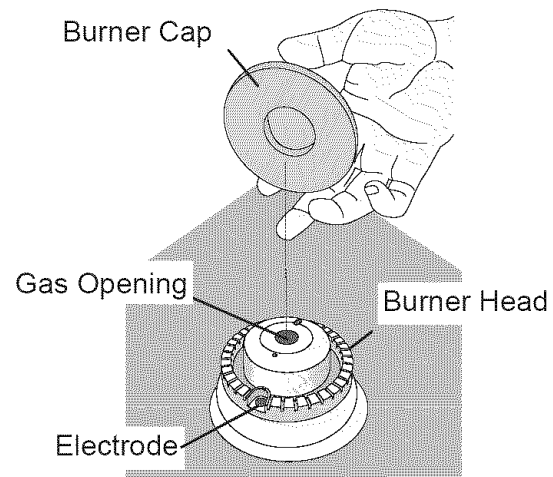

Figure 10
- B. **Regular Burners:** Burner heads and burner caps are already on the surface. Remove all tapes from burner caps and verify if they are correctly placed on the burner heads (see Figure 10).